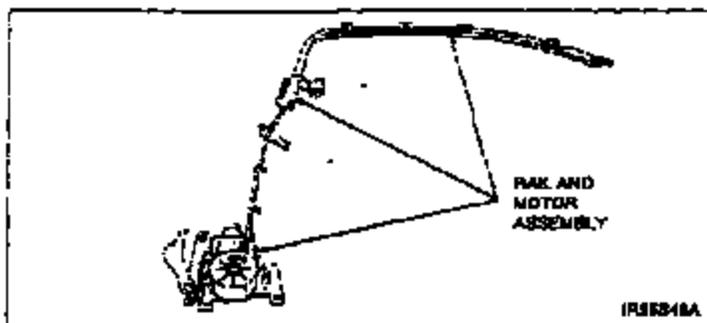

Figure 3
7. Clean the mounting bracket of any grease or foreign material. See Figure 3.